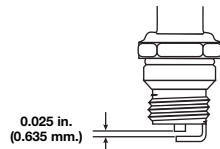

Fig. 40
- Stop the engine and allow it to cool. Remove the six (6) screws on the back of the engine cover with a Flat-head or T-25 Torx screwdriver (Fig. 40).
- Replace cracked, fouled or dirty spark plug. Set the air gap at 0.025 in. (0.635 mm.) using a feeler gauge (Fig. 40).